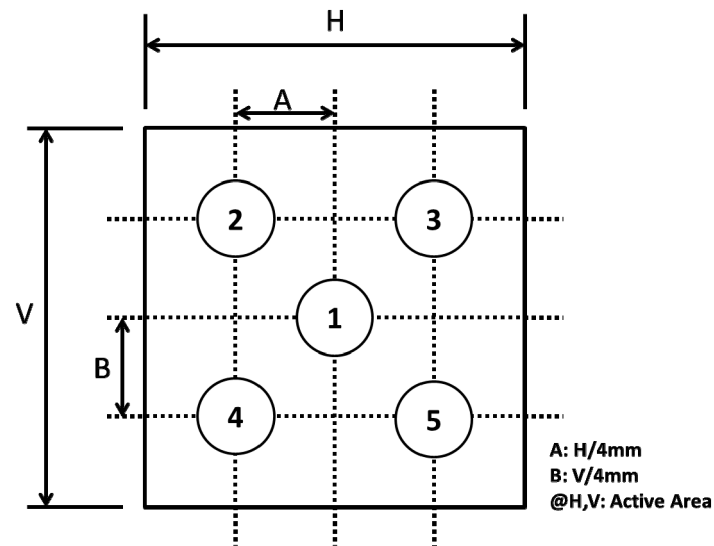

FIG. 2 5 Points for Luminance Measure
1. Contrast Ratio(CR) is defined mathematically as :Surface Luminance at all white pixels CR = Surface Luminance at all black pixels. It is measured at center 1-point.
2. Surface luminance are determined after the unit has been 'ON' and 1Hour after lighting the backlight in a dark environment at $25 \pm 2^\circ\text{C}$. Surface luminance is the luminance value at center 1-point across the LCD surface 50cm from the surface with all pixels displaying white. For more information see the FIG. 2.